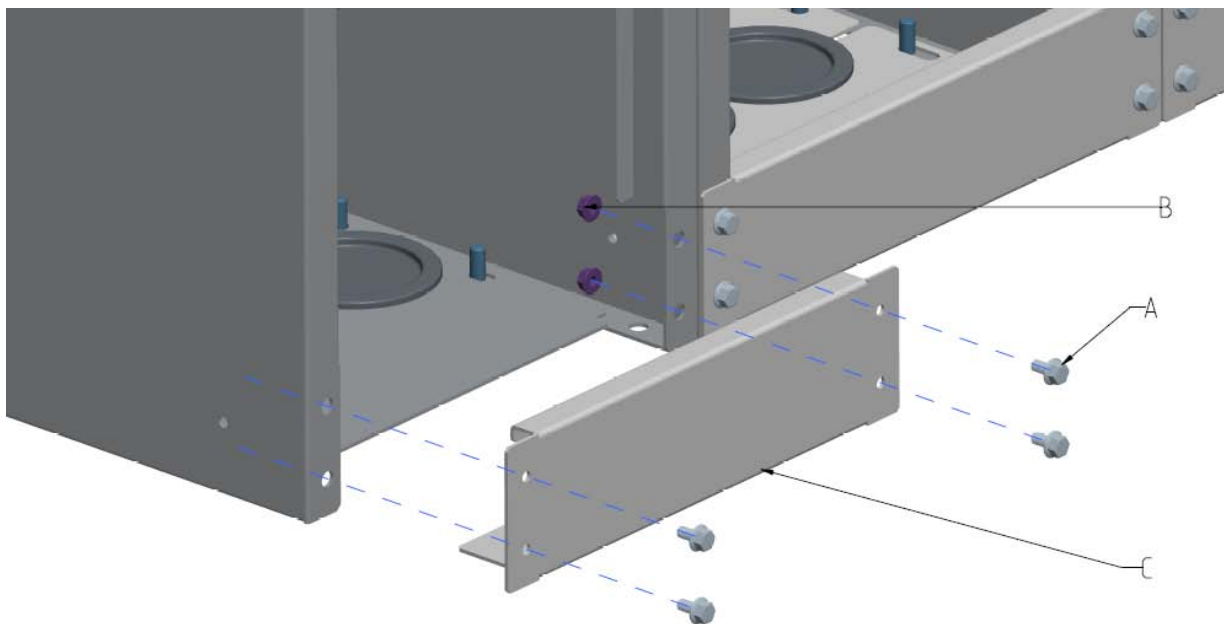

Figure 19: Disassembling the front panel of the cable compartment
To allow for the most comfortable way to connect the cables, the DR-6 medium-voltage cubicle is designed in such a way that the front panel of the cable compartment (C) can be disassembled easily (Figure 19). The front panel of the cable compartment (C) is fixed with four self-securing hexagonal flange bolts (A) and four self-securing flange nuts (B).